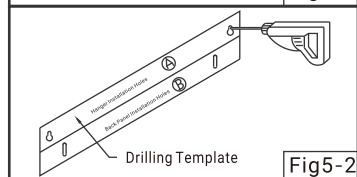

Fig5-2
- Rest the drilling template against the wall and drill holes at the indicated positions (1 hole each at left and right), fix sleeve anchor to the drilled holes. (Fig. 5-2)